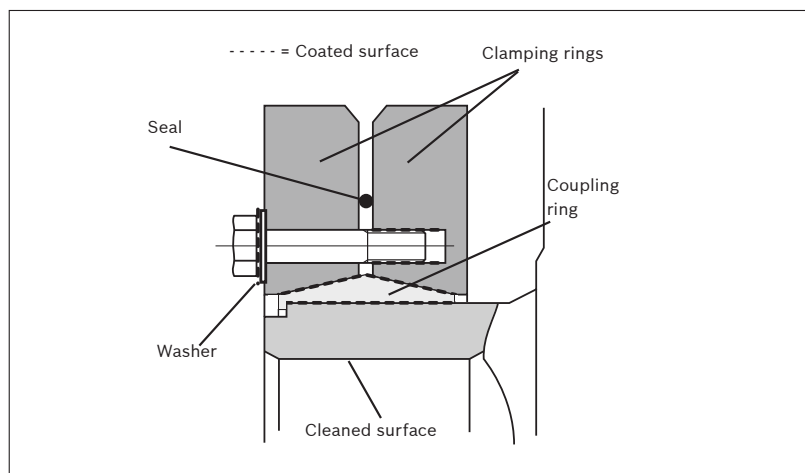

Fig. 3.11
- The conical surface between the coupling ring and the clamping rings + the bolts shall be coated with MoS₂ (Molykote), see Fig. 3.11. This is done from the factory at delivery! When a motor has been in for overhaul or service and shall be re assembled it may be necessary to relubricate those surfaces with Molykote again but remember only the specified surfaces!